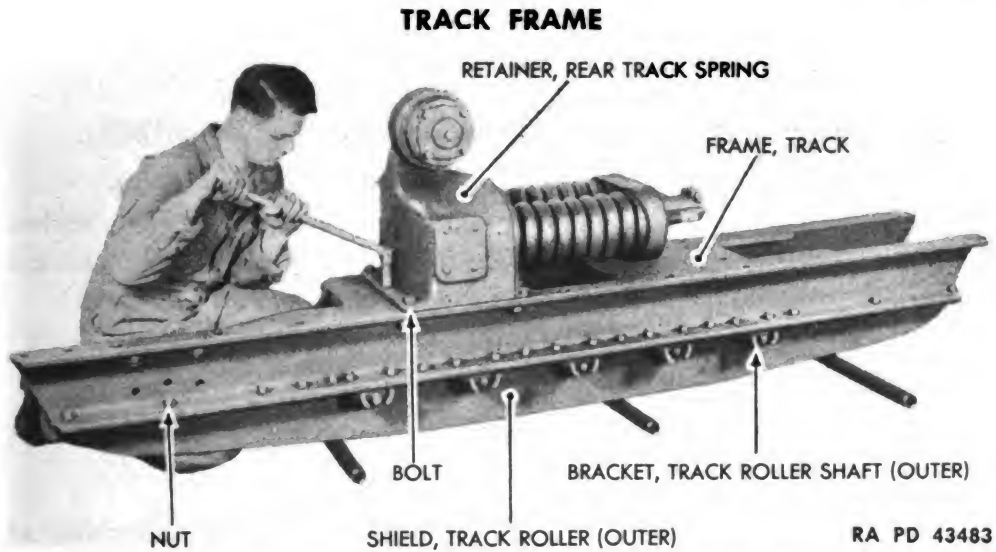

Figure 185 — Track Spring Retainer Rear (Right) Removal
(13) REMOVE REAR TRACK SPRING RETAINER (RIGHT) (fig. 185).
(1) INSTALL BOTTOM TRACK ROLLERS (fig. 185).
(2) INSTALL INNER AND OUTER TRACK ROLLER SHIELDS (fig. 185).
(3) INSTALL REAR TRACK SPRING RETAINER WITH SPRINGS INSTALLED (fig. 185).